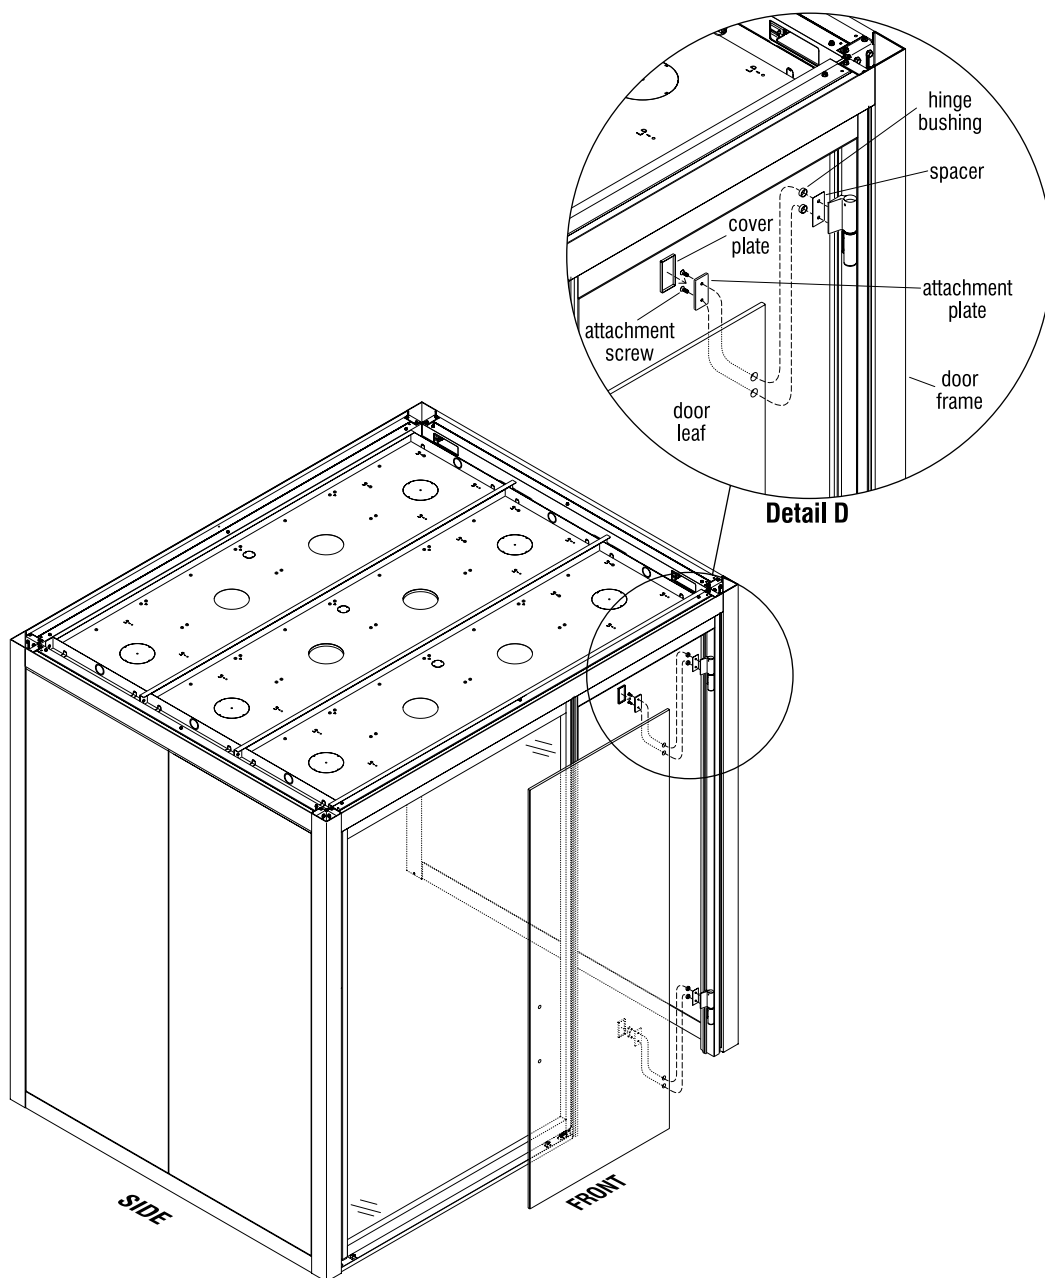

Figure 9
15. With the help of another person (one person inside the super structure, and one person working outside), divide up the inside hardware for installation to the inside person, and the outside hinge installation hardware to the person outside (Figure 9 & Detail D).
16. Carefully position the glass door leaf into the door frame as illustrated. Align the hinge mounting holes with the mounting holes in the door leaf and use a block under the center of the door leaf to aid in holding up for alignment. With door leaf holes aligned to the hinge mounting holes, from the outside add a pair of hinge bushings into the glass and hold a spacer in place at each hinge mounting location. At inside the super structure and at each top and bottom hinge location, place an attachment plate over the door leaf mounting holes, then loosely twist in the attachment screws through the attachment plate, through the hinge bushings in the glass leaf, through the spacer and into the hydraulic hinge installed on the door frame. Assure alignment of the door leaf to the hinges, then tighten screws (Figure 9 & Detail D).
17. At inside the door leaf, at each hinge mounting location, press on the cover plate onto the attachment plate per the manufacturer's instructions (Figure 9 & Detail D).